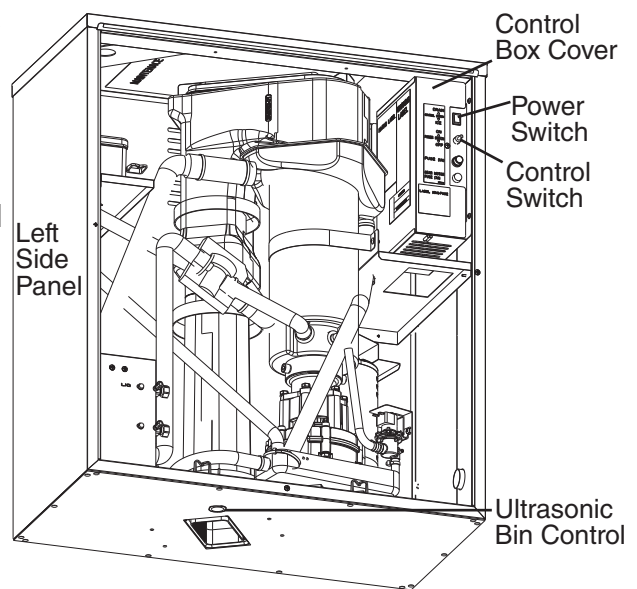
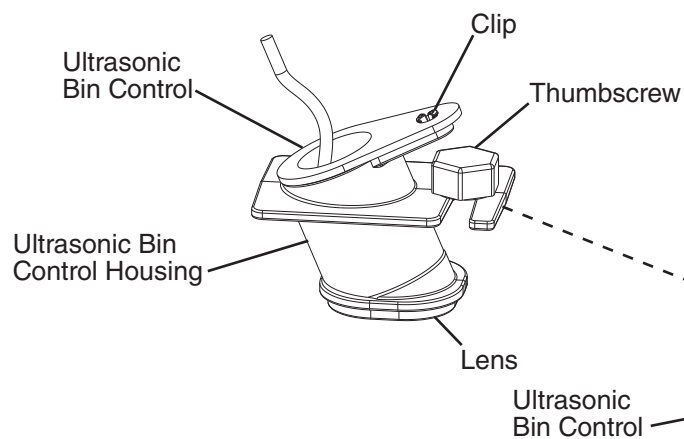

Fig. 14
Fig. 15
- 8) "GM" LED and "COMP" LED are on. Place an object 5" to 7" (127 to 178 mm) away from the bin control lens at the bottom of the icemaker. See Fig. 14. If the bottom of the icemaker is not accessible in your application, remove the thumbscrew securing the bin control sensor housing to the base, then remove the bin control sensor housing. See Fig. 15.
- 6) Remove the spout spring, then open the spout cover. See Fig. 14.